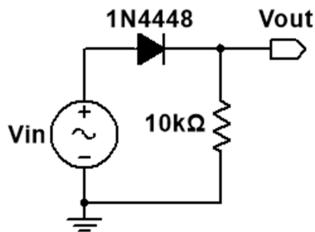

FIGURE 28. Rectifier circuit.
**Build** the half-wave rectifier circuit in Fig. 28. Use the Wavegen to **generate** a 2.5 V amplitude, 100 Hz sine wave. Display the output of the Wavegen on Channel 1 of the Scope, and the voltage across the resistor on Channel 2. Trigger the Scope to trigger Synchronously from the Wavegen.